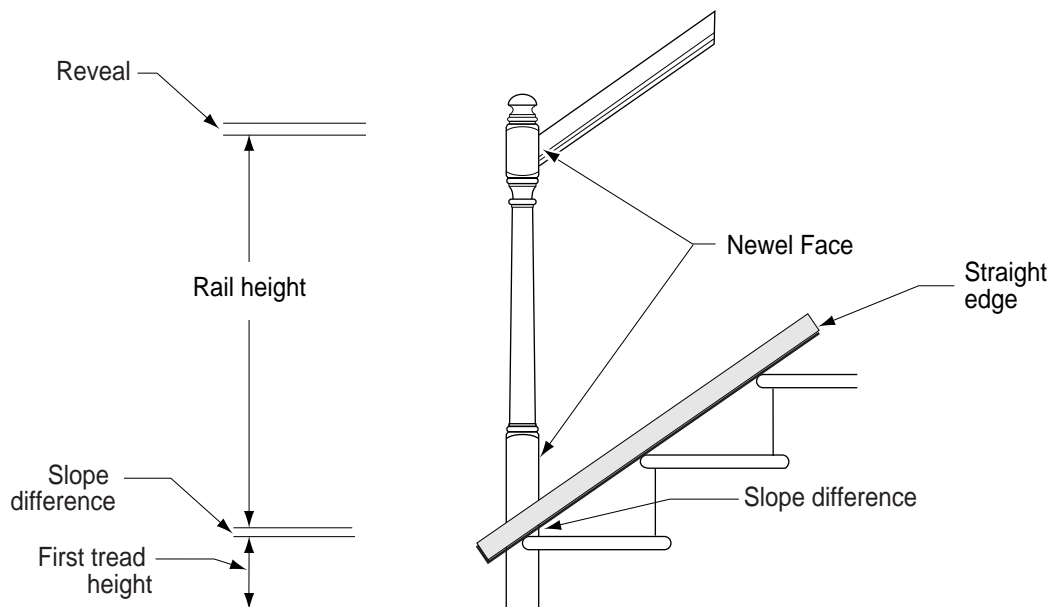

Fig. 4-4 Establishing newel height.
3. To determine the newel length, add the reveal (the distance from the top of the newel square to the top of the rail), the desired rail height (usually between 34 and 38-inches, refer to local building codes), the slope difference, and the riser height. Please note Fig. 4-4 here.